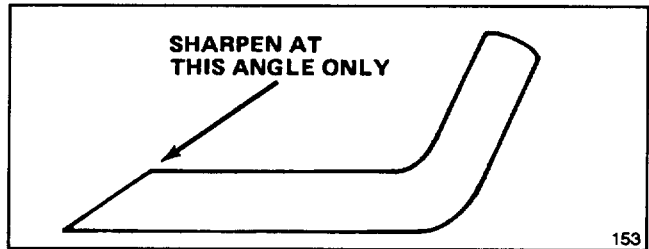

Figure 18
6. **SHARPENING BLADE**—Using a file, sharpen top side of blade and maintain original cutting angle (Fig. 18). The blade will remain balanced if same amount of material is removed from both cutting edges.